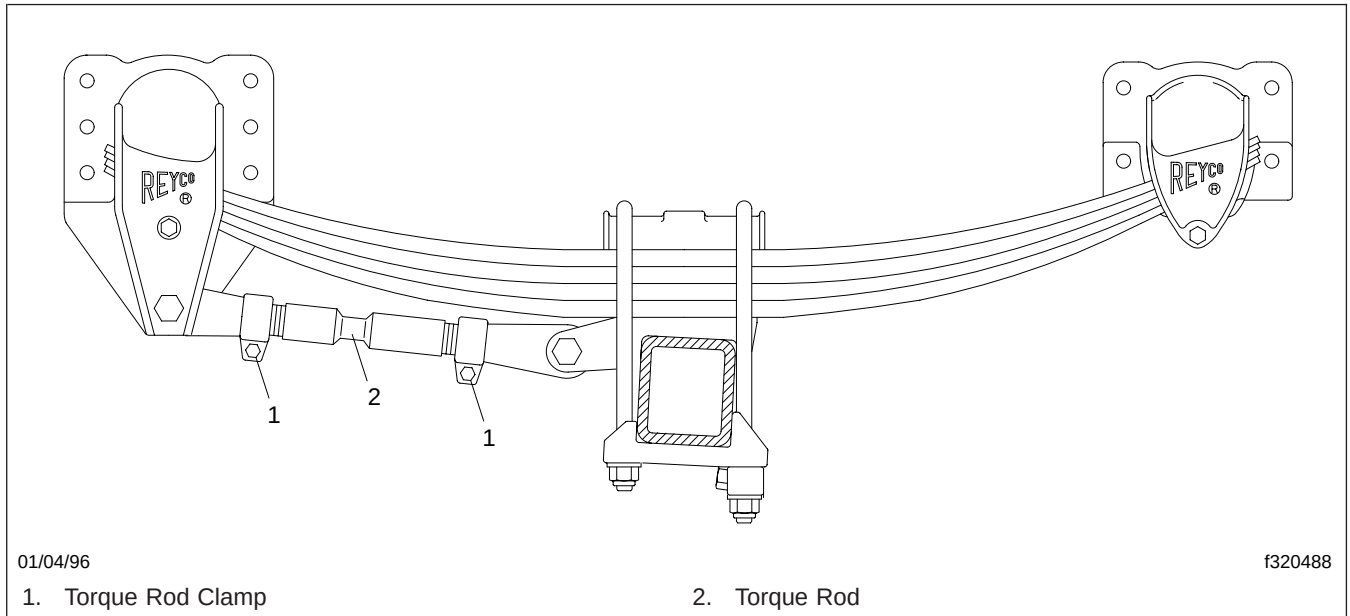

Fig. 9, Reyco 79KB Torque Rod Clamp Position
2. Check that the torque rod clamps are directed away from the spring to prevent possible interference during operation. See **Fig. 9**.